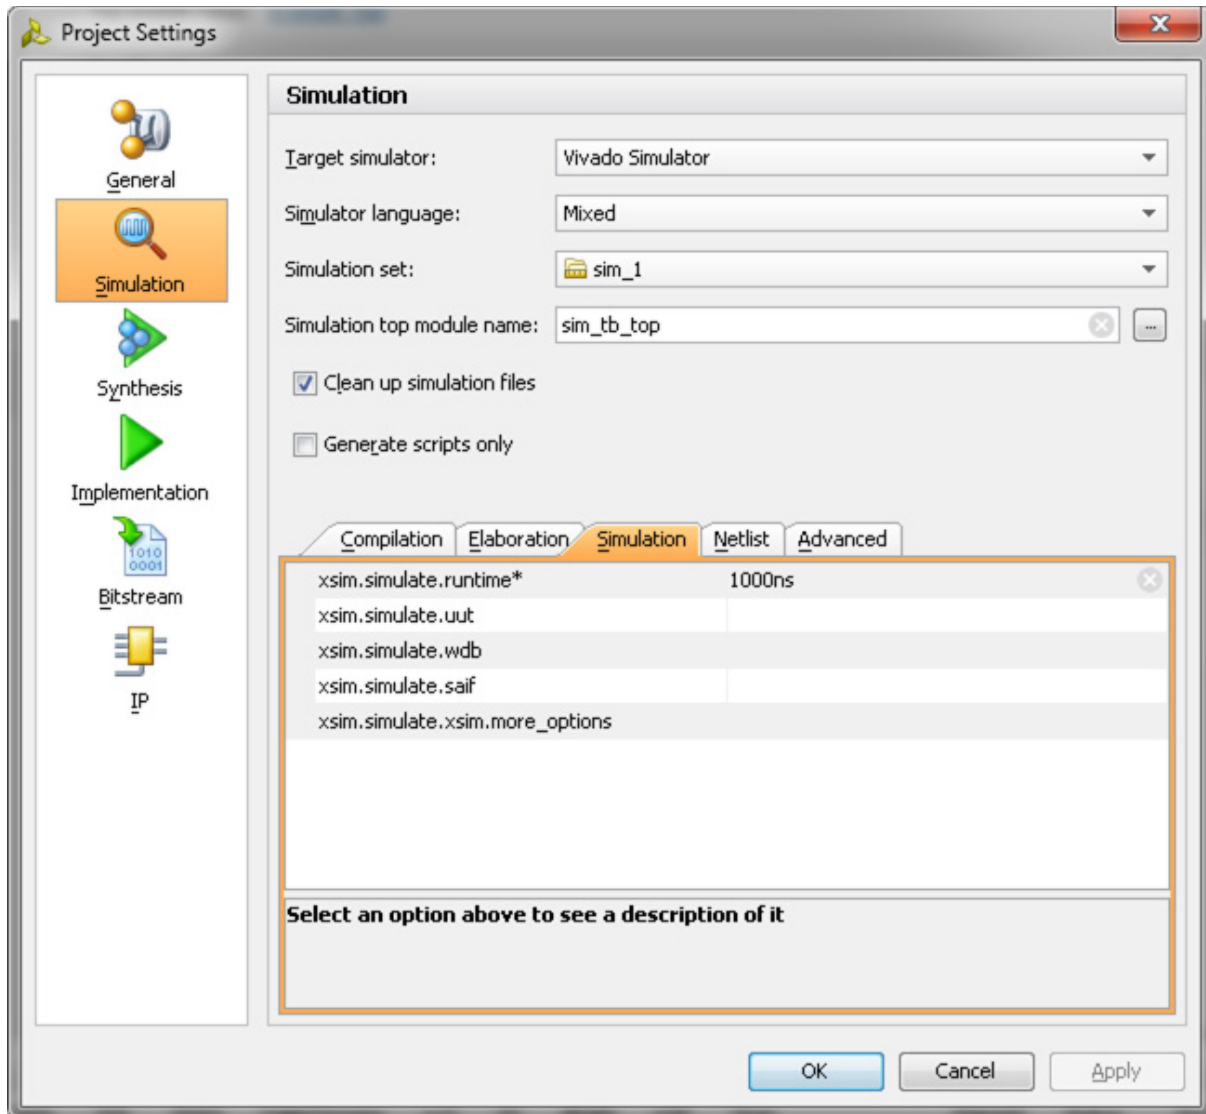

Figure 2-50: Simulation with Vivado Simulator
1. In **Open IP Example Design** Vivado project, under **Flow Navigator**, select **Simulation Settings** (Figure 2-50).
2. Under the **Simulation** tab as shown in Figure 2-50, set the `xsim.simulate.runtime` as 1 ms (there are simulation RTL directives which stop the simulation after certain period of time, which is far less than 1 ms). Apply the settings and select **OK**.
- b. Under the **Simulation** tab, set the `modelsim.simulate.runtime` to 1 ms (there are simulation RTL directives which stop the simulation after certain period of time, which is far less than 1 ms), set `modelsim.simulate.vsim.more_options` to **-novopt** as shown in Figure 2-50.